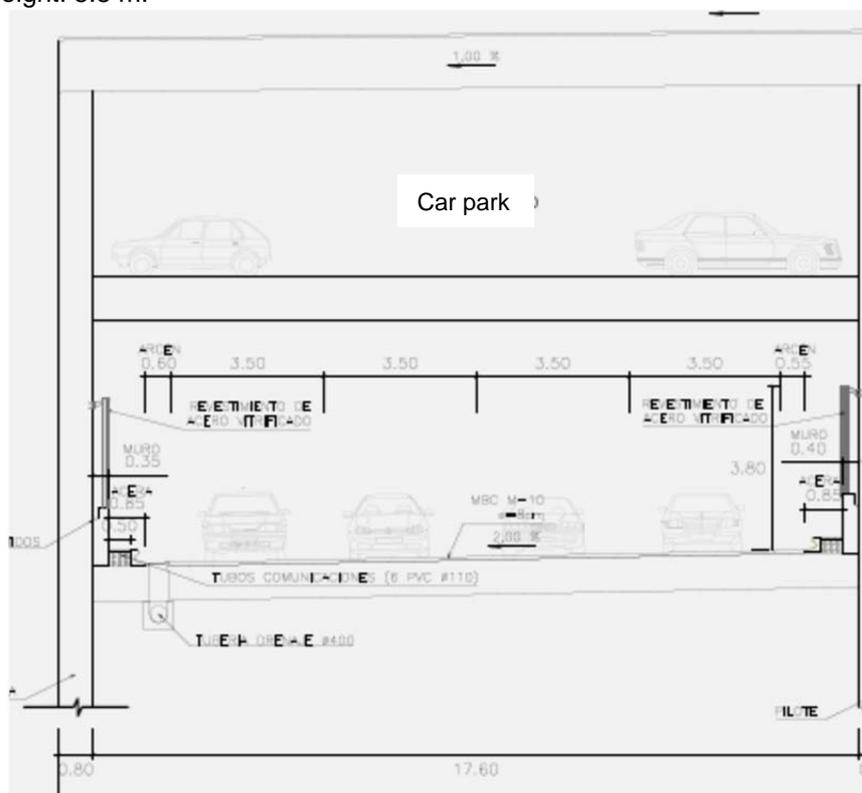

Figure 6 – Avenida Portugal Tunnel. Cross section
2.2.2 Main branch - Avenida de Portugal (Figure 6)